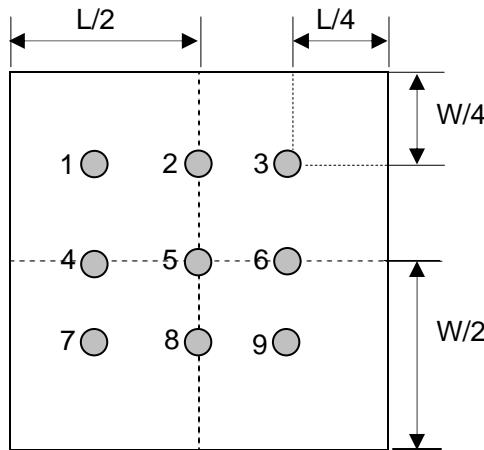

Fig. 3
- 5.1.4 Set brightness and contrast to be maximum, apply pattern as Fig.3, it should be the following requirement: